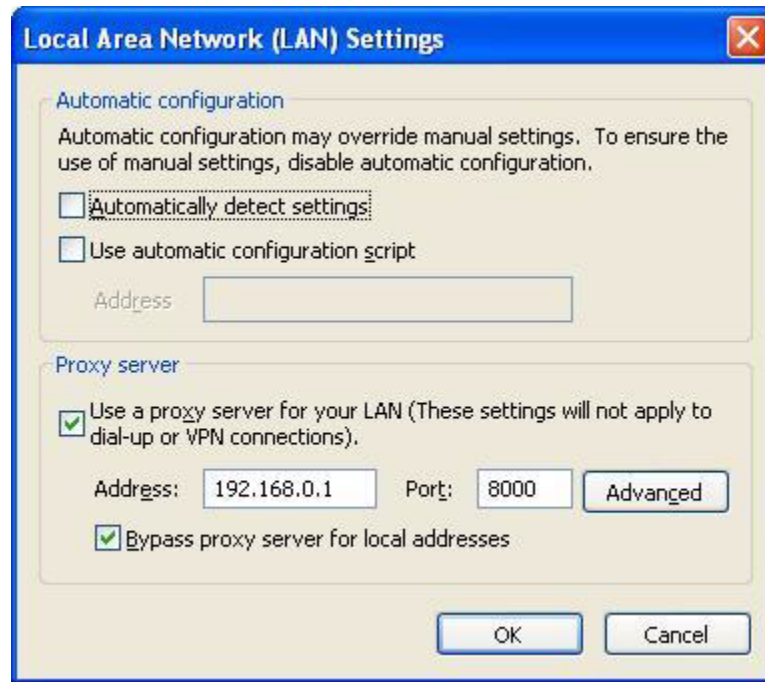

Figure A-5 · Local Area Network Settings
4. Click the LAN Settings button (Figure A-5).